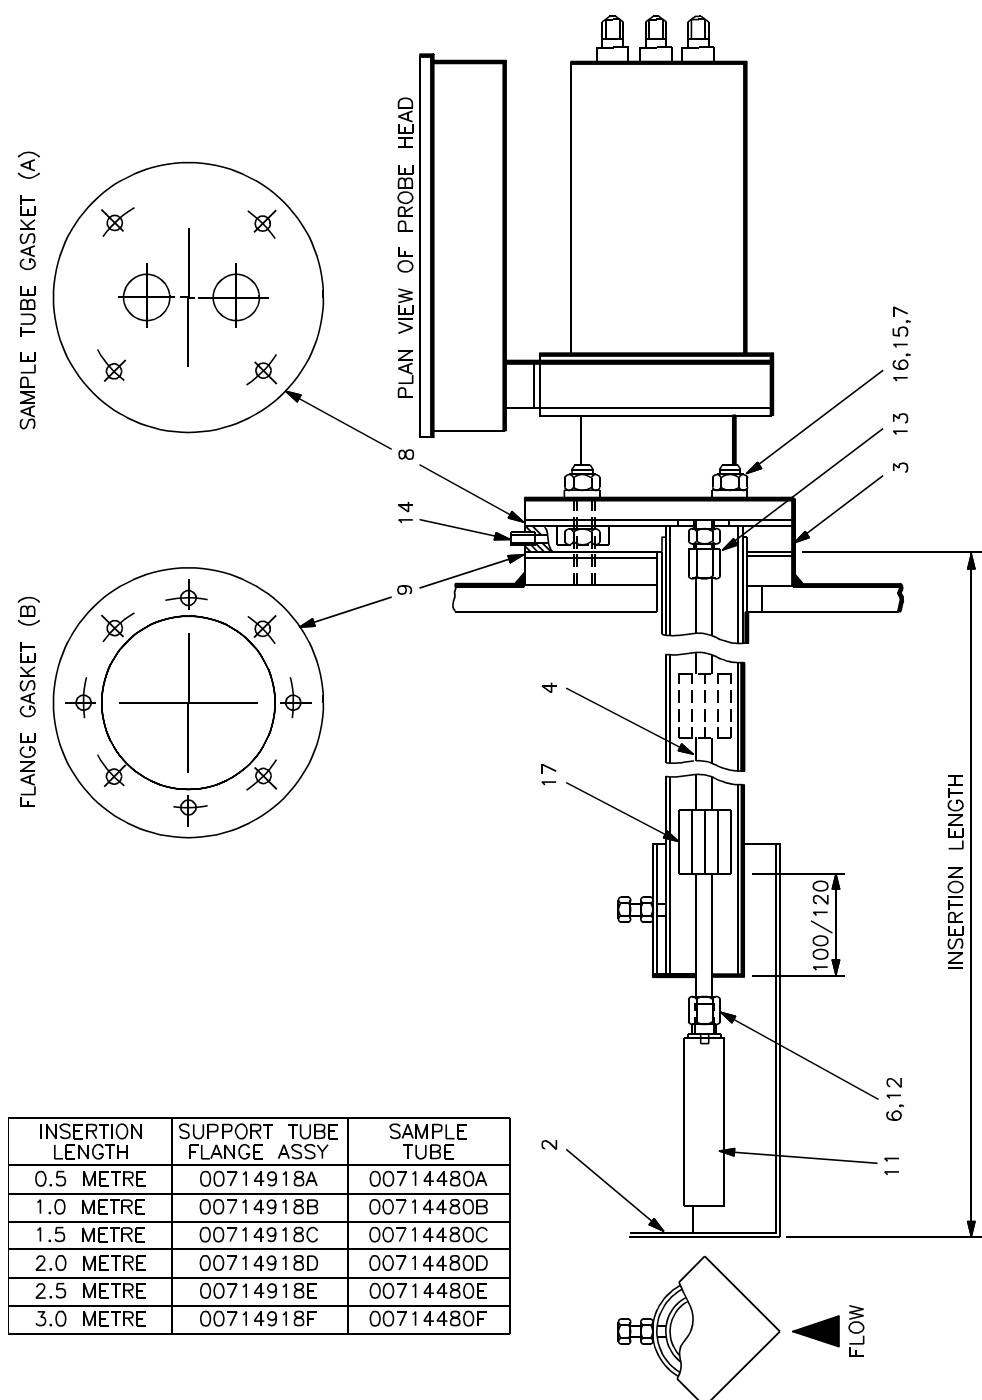
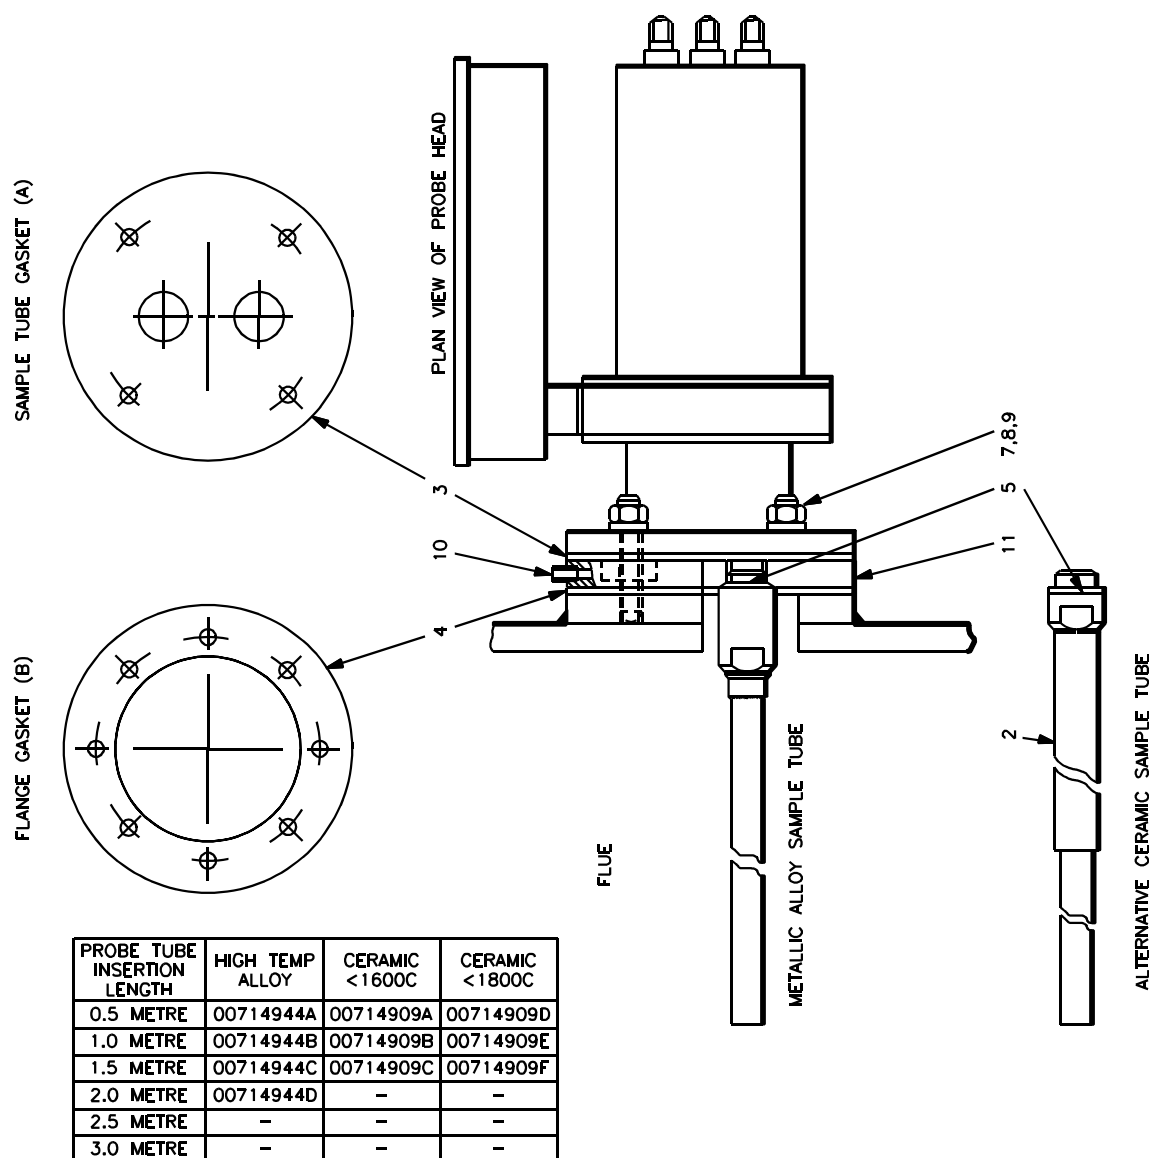

Figure 3.23 Installation of Supported Filter Probe
Figure 3.24 Installation of High Temperature Probe
The sensor head, as supplied, vents back to the flue. With the exception of the unsupported probe version, it is possible to vent to atmosphere providing the flue pressure is within +/- 50mmwg. To convert to vent to atmosphere the plug (14) in figure 3.23 and (10) in figures 3.24 and 3.25 should be removed and replaced in the vent hole on the front face of the sensor head.
The probe assembly is normally supplied in a range of lengths from 0.5m to 3.0m in 0.5m steps. The support and sample tubes may be cut to intermediate lengths. The length of the 1/4 inch O.D. probe tube required is equal to: Support Tube + Flange Assembly Length + 48 mm. See Figure 3.23.
3.9.4 High Temperature Probe See Figure 3.24.